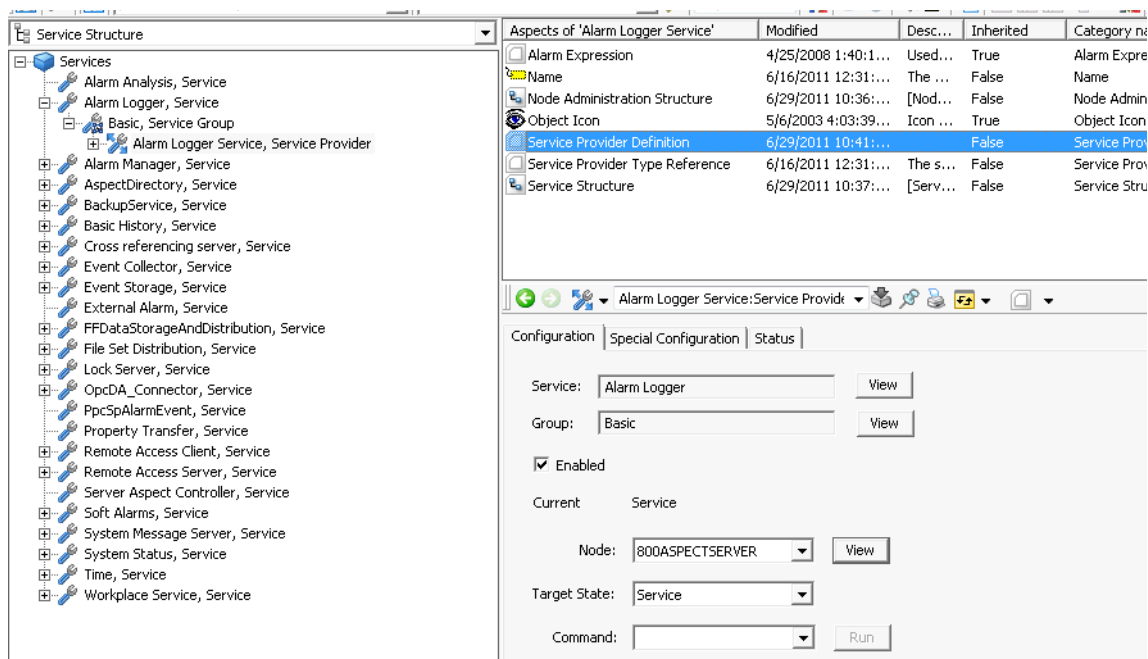

Figure 75. Service Provider Definition Aspect - Configuration Tab
- 5. Select the Service Provider object, see Figure 75, and open the Service Provider Definition aspect.